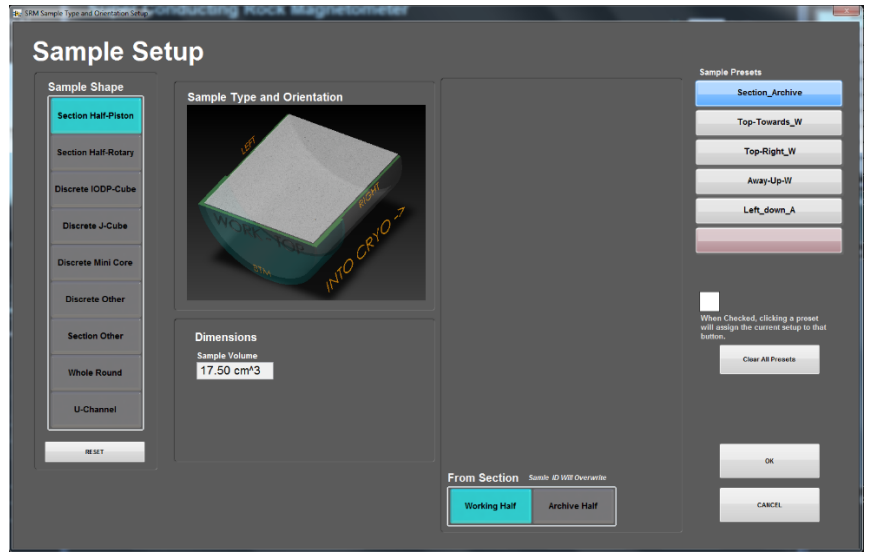

Figure 5. Sample Preset Editor Window.
1. To set up a sample preset shape, select **DAQ > Sample Preset Editor** (Figure 5).